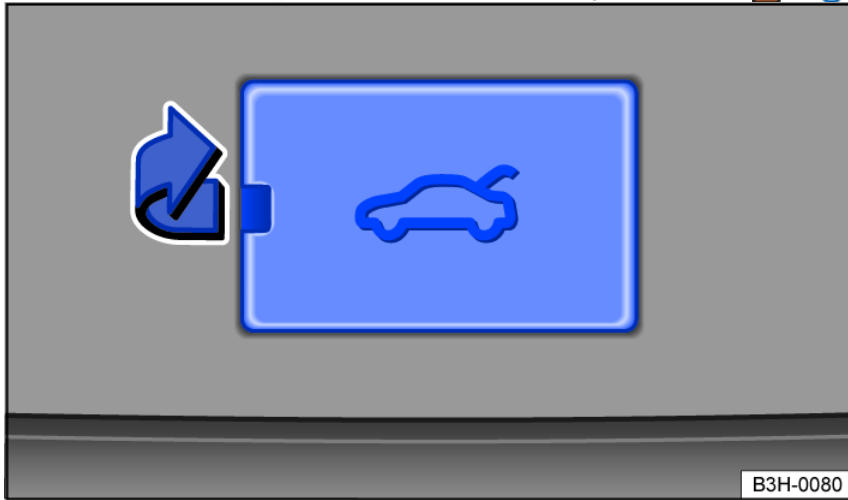

Fig. 55 In the trunk lid: cover for the trunk lid emergency release.
1. Pry off the square cover in the inner trim panel of the trunk lid using a screwdriver *fig. 55*.